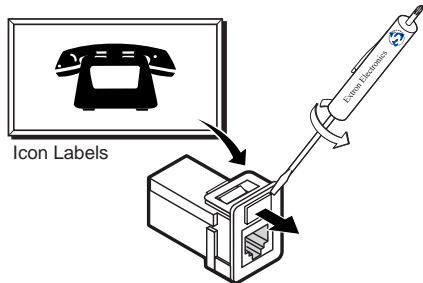

Figure 3-3 — Changing the connector icon
4. Snap a replacement bezel in place. If necessary, replace the connector icon by prying the old icon off of the connector plug-in with a tweezers (figure 3-3) and snapping a new icon in place.